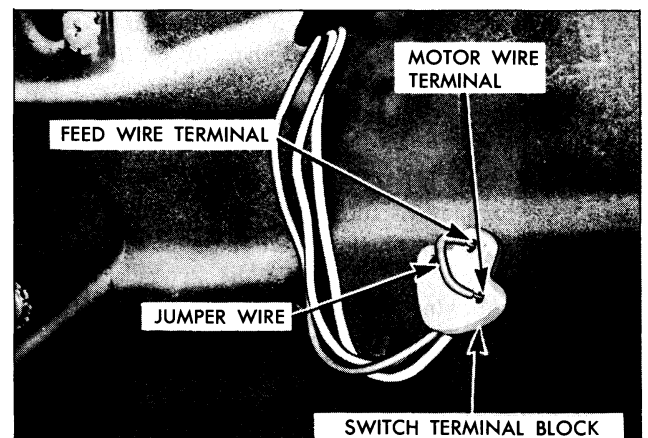

Fig. 18-8 Checking Window Control Switch
1. Insert one end of a 12 gauge jumper wire to the switch feed terminal and other end to one of the motor lead terminals in switch block. Repeat this check on the remaining motor lead terminal (Fig. 18-8).
2. Insert one end of a 12 gauge jumper wire to the switch feed terminal and the other end to one of the motor lead terminals in the switch block (Fig. 18-8).
2. Insert one end of a 12 gauge jumper wire in the switch feed terminal and the other end in one of the motor lead terminals of the switch block (Fig. 18-8).